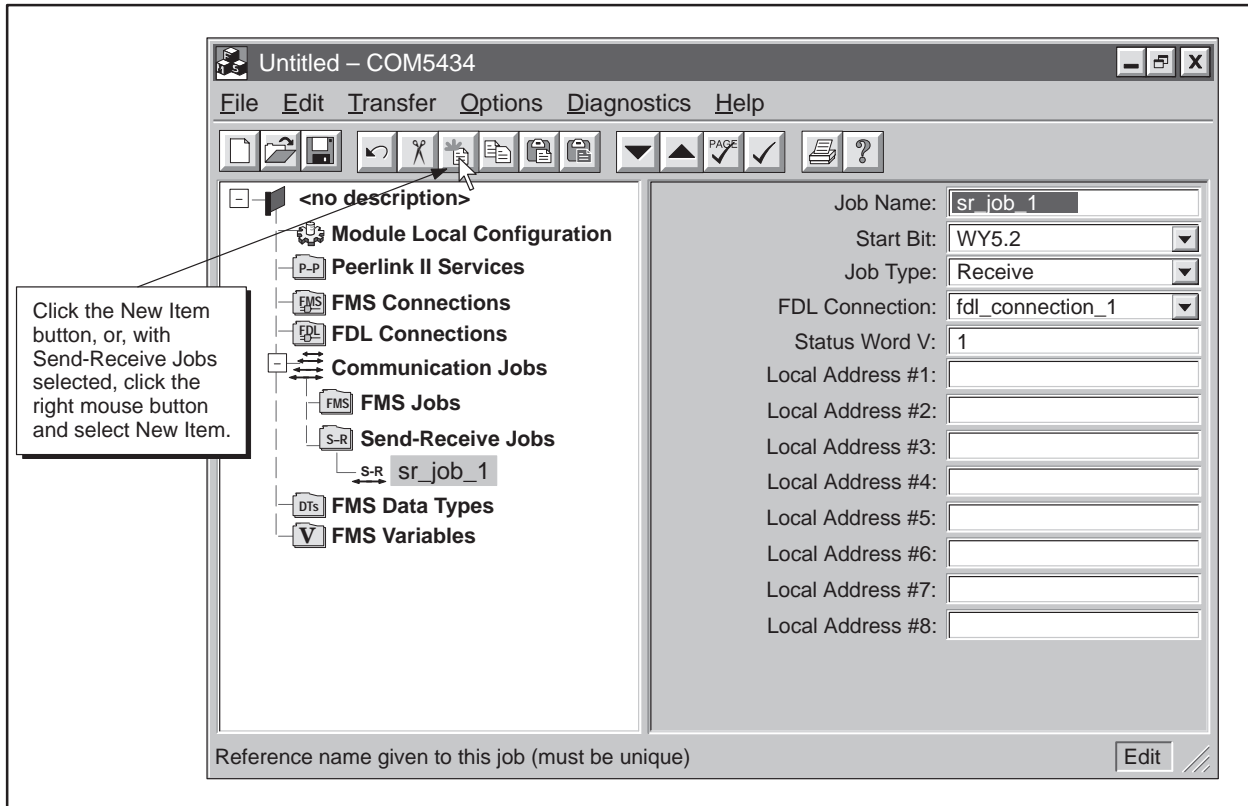

Figure 5-23 Configuring Send-Receive Jobs
2. Click on the New Item button on the toolbar. A Send-Receive job appears in the configuration tree and the input fields change (see Figure 5-23).